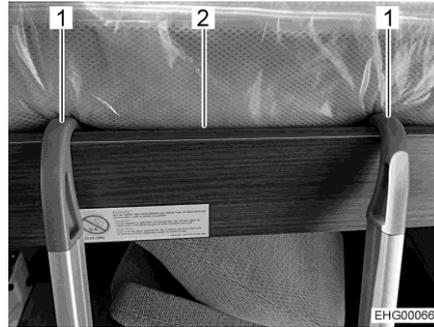

Fig. 93 Access ladder (pull-down bed)
- Hook the access ladder into the bed surround (Fig. 93,2) on the pull-down bed by the two brackets (Fig. 93,1). When engaging make sure that the hooks rest on the inner fixtures. This prevents lateral movement of the access ladder.
- Unhook the access ladder (Fig. 93,1).